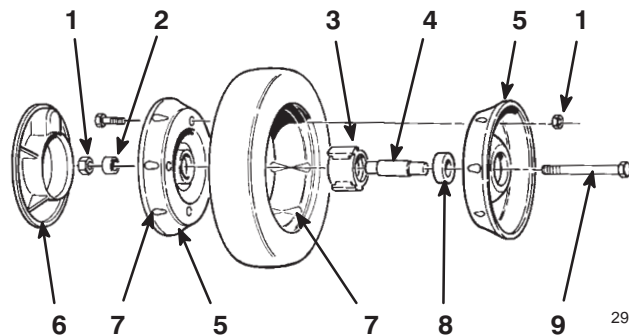

Figure 29
3. Remove the bolt, the wheel spacer, and the locknut mounting the wheel to the pivot arm (Fig. 29).
4. Separate the wheel halves from the tire by removing four bolts and four locknuts (Fig. 29).
**Note:** If you remove the bearings from the bearing/hub assembly, remove them by pressing on the bearing spacer (Fig. 29).
1. Position the tire onto one wheel half, aligning the lugs on each (Fig. 29).
2. Place the bearing/hub assembly into the center hole of the wheel half. Ensure that the legs of the hub are positioned over the flange of the hole (Fig. 29).
3. Place the other wheel half onto the bearing/hub assembly, aligning the wheel and the tire lugs and the mounting holes (Fig. 29).
4. Using two 1/4-20 x 1.50 in. (6 x 38 mm) fully threaded bolts and non-locking nuts, loosely secure the wheel halves together. Mount the bolts in the opposing holes (Fig. 29).
5. Check the alignment of all parts and tighten the bolts, alternating from side to side for a uniform fit, until the wheel halves are drawn together (Fig. 29).
6. Install the two bolts and two locknuts previously removed in the remaining holes in the wheel halves and tighten. Remove the two long bolts and replace them with two bolts and two locknuts (Fig. 29).
7. Install the wheel to the pivot arm with the bolts, a spacer, and a locknut. Ensure that the spacer is positioned between the wheel hub and the pivot arm (Fig. 29).